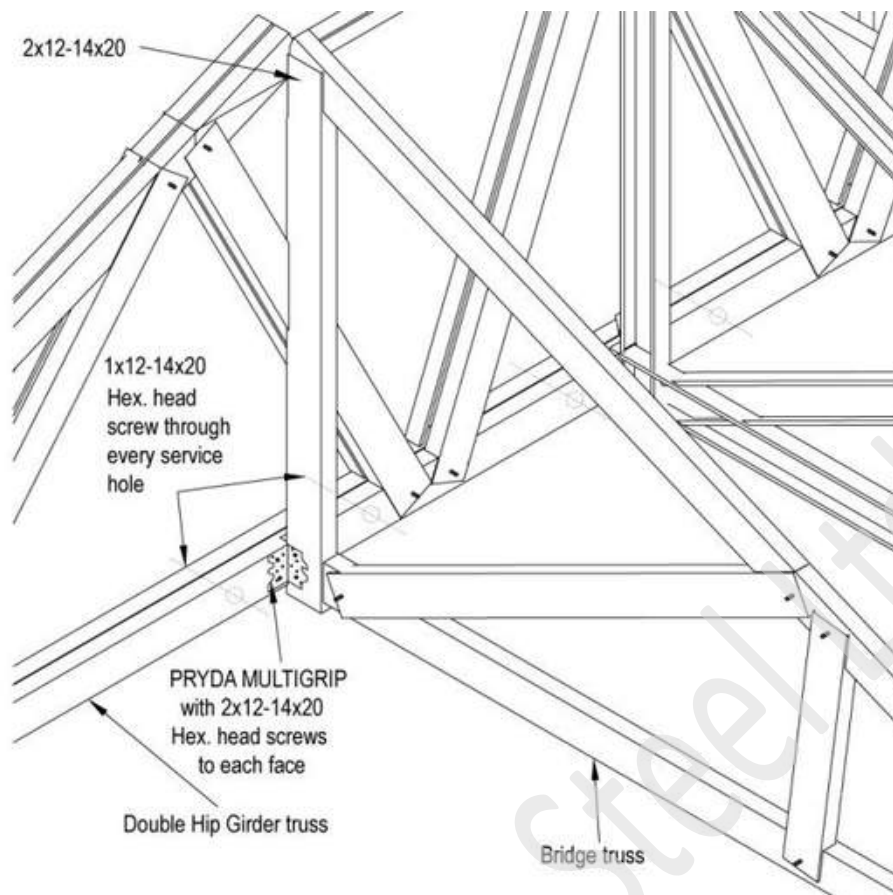
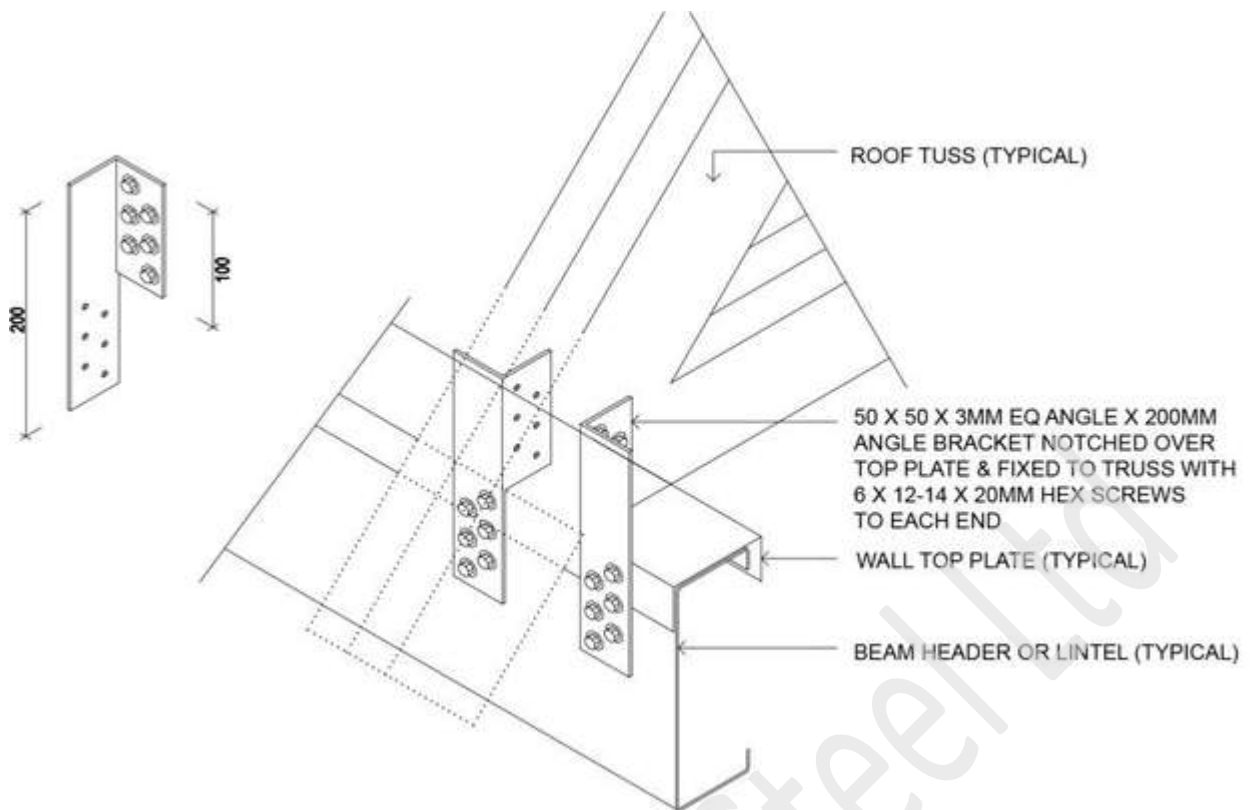
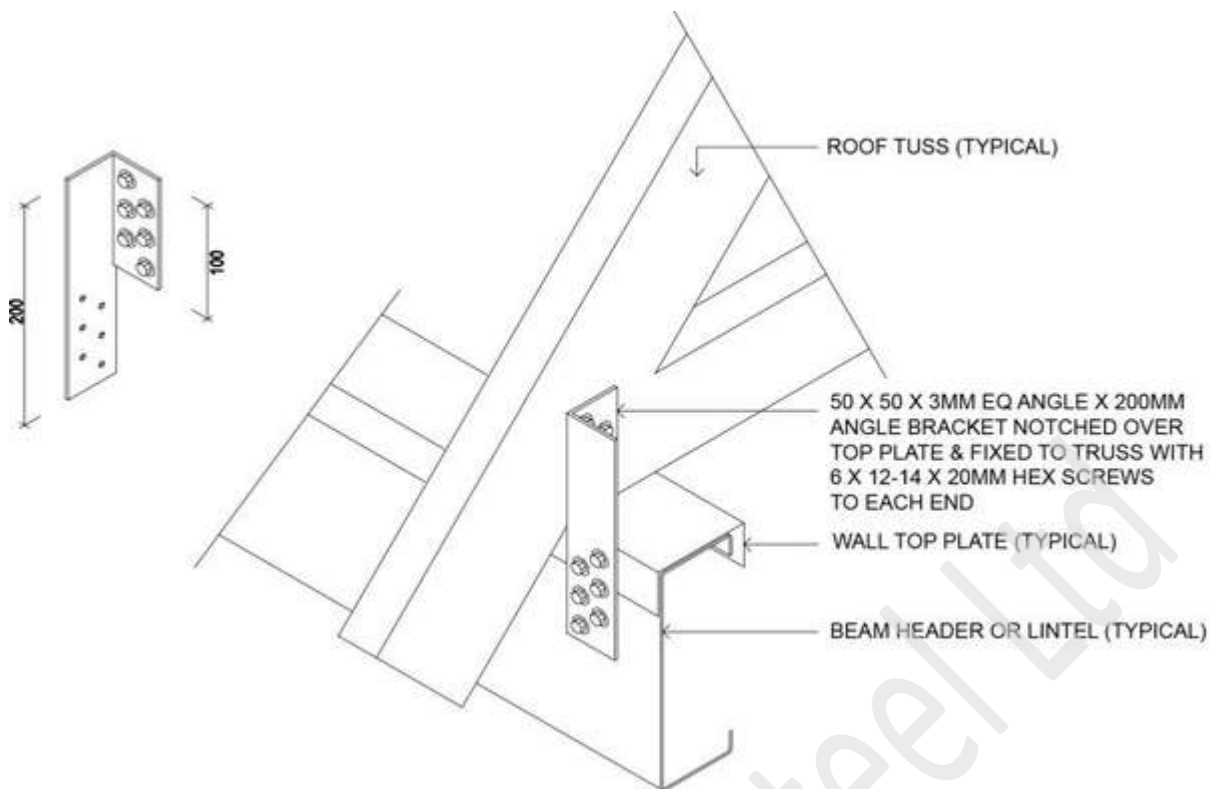

Figure 7.11 Bridge truss to hip girder truss connection
Figure 7.12 Girder truss to wall top plate connection using angle brackets
Figure 7.14 Single girder truss to wall top plate connection using angle tie downs
Fix the bridge truss to hip girder bottom chord as shown in **Figure 7.11**. Using a multigrip fixed with 2x12-14x20 hex head screws. The tab on the bottom chord may need to be cut or bent for fixing. Ensure bridge truss spacing is not exceeded.
Step 8: A single girder truss can be installed using either a 25 x 5mm strap tie down or a 50 x 50 x 3mm angle tie down as is shown in **Figures 7.14** or **7.15**. Install the second ply girder truss (if applicable) with the toes of both trusses facing each other and fix it to the brackets as shown in **Figures 7.12** or **7.13**. Install 1x12-14x20 Hex Head screws through **every** service hole provided on the bottom chord to connect the two trusses together as shown in **Figures 7.11** and **7.16**.